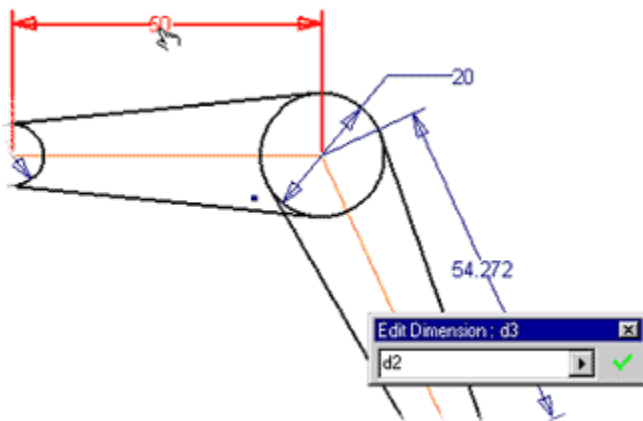

Figure 10: Creating a relationship between dimensions.
7. Click the 50mm dimension of the horizontal construction line as shown in Figure 10.